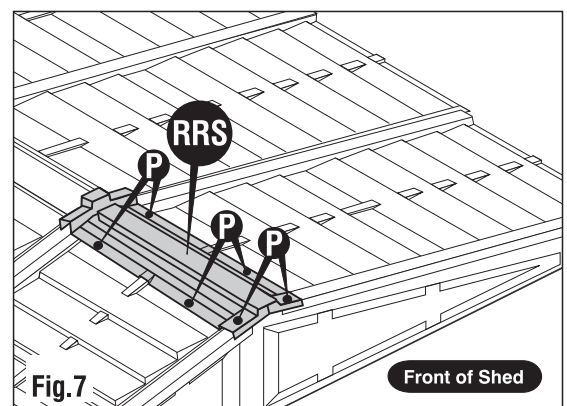
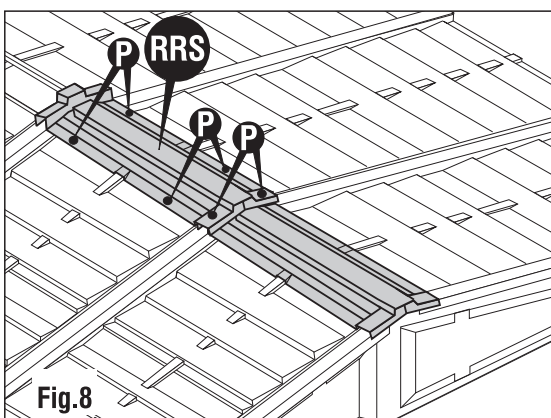

Fig.7
Fig.8
4. Attaching the **ridge cover (RRS)** on top of the **roof panels (RP↑)** start from the front side of the shed. See **Fig.7 Fig.8 Fig.9**. **Add one ridge cover for each extension.**